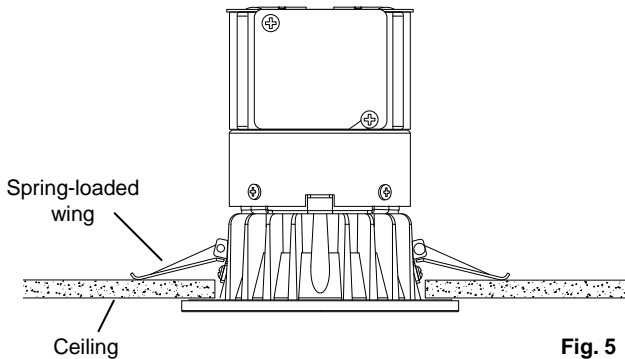

Fig. 5
- Continue inserting the fixture into the hole, while continuing to squeeze the spring-loaded wings. When the wings reach the hole edge, release them and push up the fixture until both wings flip down onto the ceiling surface. (Fig. 5)